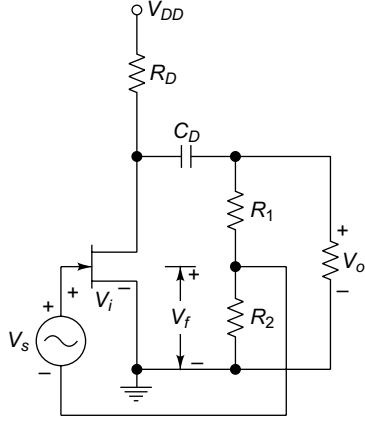
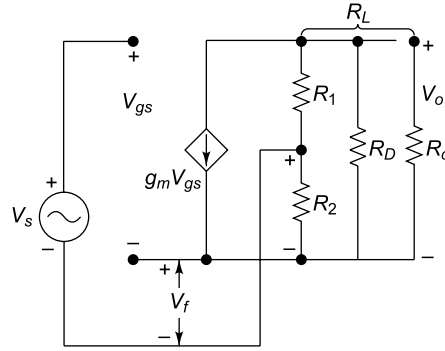

Fig. 2.27 FET amplifier
Fig. 2.28 Equivalent circuit of FET amplifier
Figure 2.27 shows an FET amplifier circuit with voltage–series feedback. A part of
output voltage can be feedback using a voltage divider circuit which consists of resistors R_1 and R_2 . The feedback voltage is connected in series with source signal V_s . The mid-frequency small signal model of Fig. 2.27 is depicted in Fig. 2.28.
2.15 Determine the overall loop gain of FET amplifier circuit as depicted in Fig. 2.27 with the following parameters $g_m = 1000 \mu\text{s}$, $R_1 = 20 \text{ k}\Omega$, $R_2 = 10 \text{ k}\Omega$, $R_o = 15 \text{ k}\Omega$ and $R_D = 10 \text{ k}\Omega$.